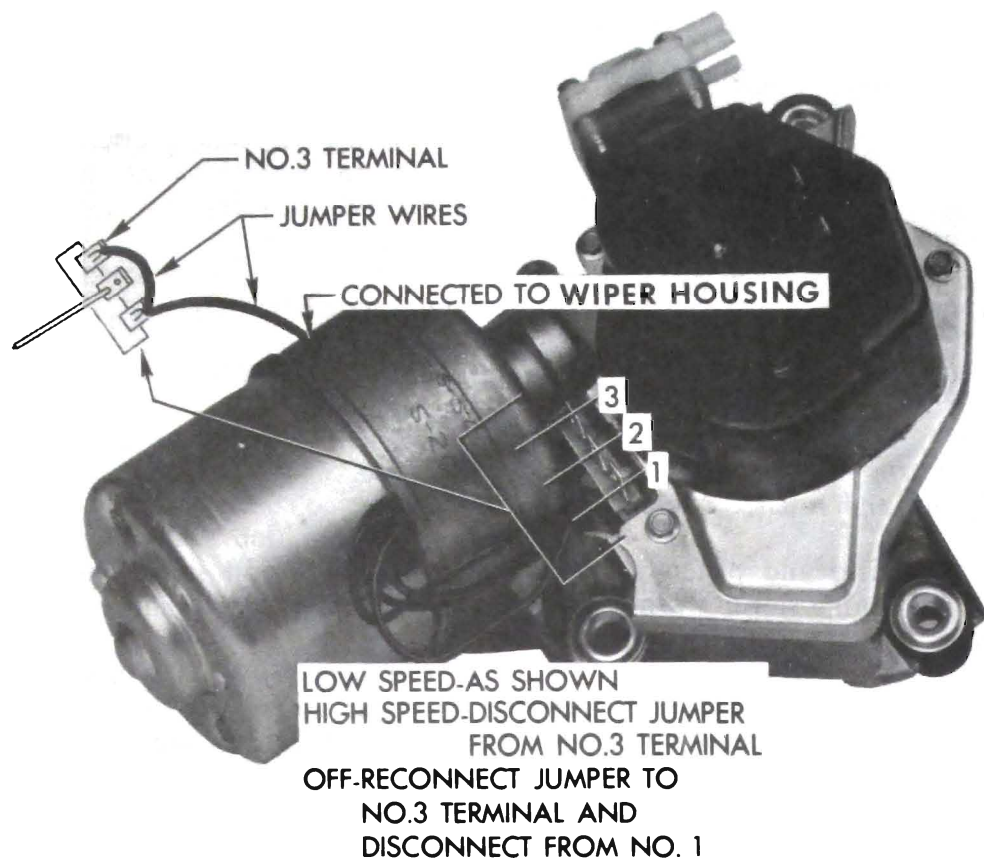

Figure 10-55 Connections to Operate Wiper Independent of Instrument Panel Switch
2. *Checking Wiper Operation.* Operate wiper independently of the car wiring or switch, as shown in Figure 10-55. Check low and high speeds and if wiper shuts off correctly.